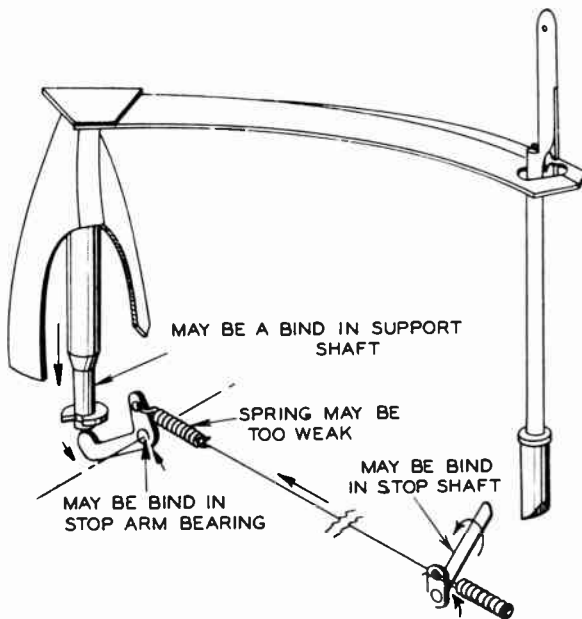

Figure V21.
11. **Changer Will Not Shut Off After Last Record Is Played:** See figure V21.